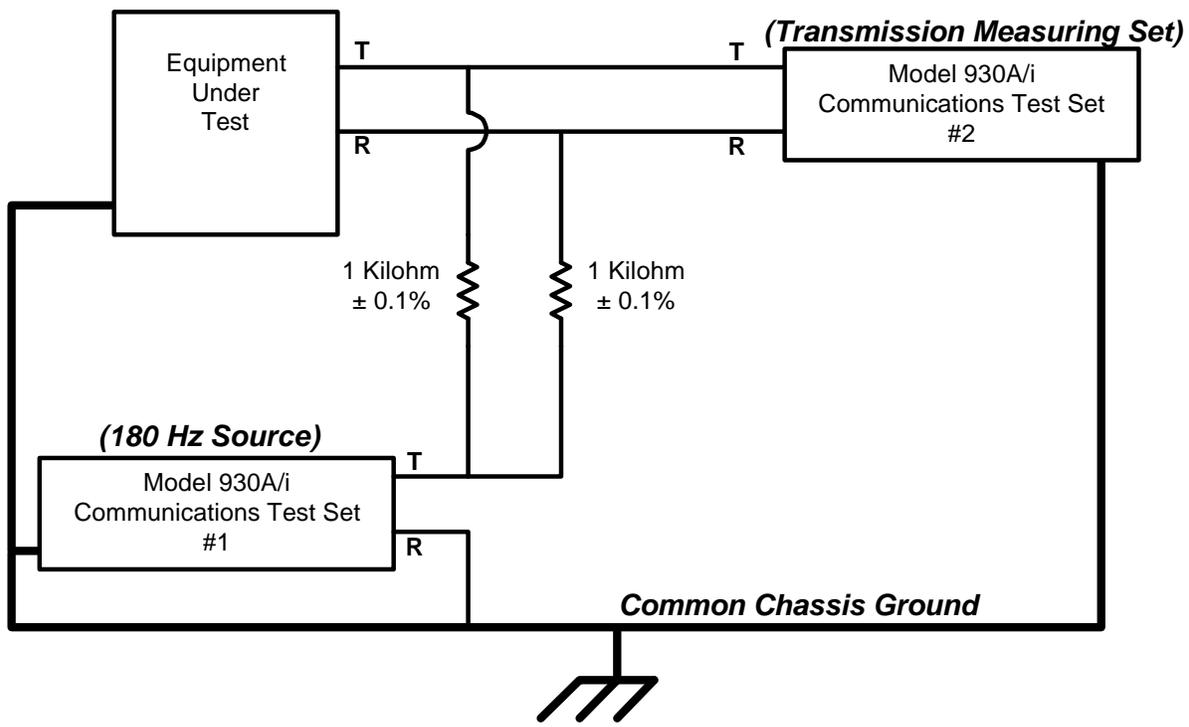

Figure 1 — Suggested Test Configuration for Measuring Longitudinal Balance
So, as shown in *Figure 1*, you can use 930 #1 as a signal source to EQUALLY excite Tip and Ring (with respect to ground) through precision equal-value resistors. You can then simultaneously use 930 #2 as a transmission measuring set to measure the *Balanced* noise value, then the *Noise-to-Ground* value. You can then compute the Longitudinal Balance by subtracting the "Balanced" noise reading from the "Noise-to-Ground" reading. The result is expressed in dB.
Note that, although the *Figure 1* shows two 930's, 930 #1 (which is serving as a signal source) could conceivably be replaced by a quality audio signal generator.
2. For any given pair of Balanced and Noise-to-Ground measurements, the measured values should fall within the 930's published range specifications. That is, the measured Balanced Noise reading must be greater than 10 dBrn and less than 100 dBrn. Likewise, the Measured Noise-to-Ground value must be greater than 50 dBrn and less than 130 dBrn. Usually, this condition is satisfied (with the resistor values given in Figure 1) by setting 930 #1's Send Tone transmit level between 0 dBm and +10 dBm.
Interconnect the 930's and the equipment to be tested, as illustrated in *Figure 1*. Pay particular attention to the need for a common chassis ground. Note that, for this test, it is not necessary to connect the E&M leads.